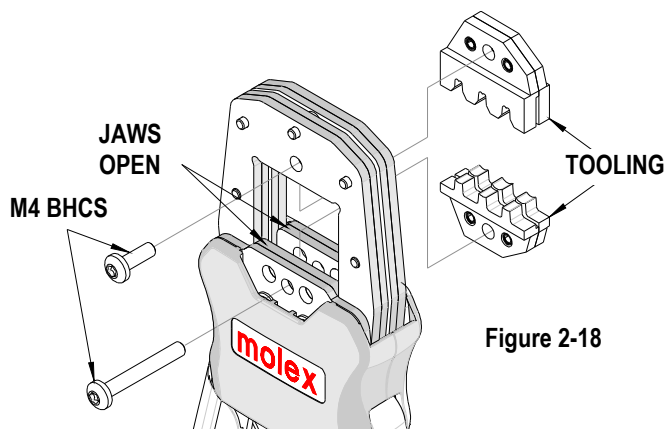

Figure 2-18
3. Remove the crimp dies as shown in Figure 2-18.